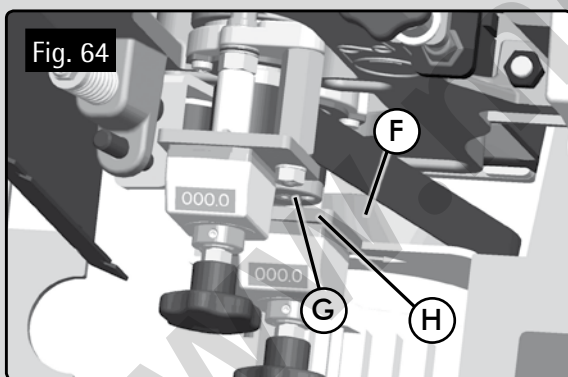

Fig. 64
- To remove the belt, take it off the lower pulley F (Fig. 64) and remove it from the machine through the space left between the pulley G (Fig. 64) and the lower counter support H (Fig. 64).